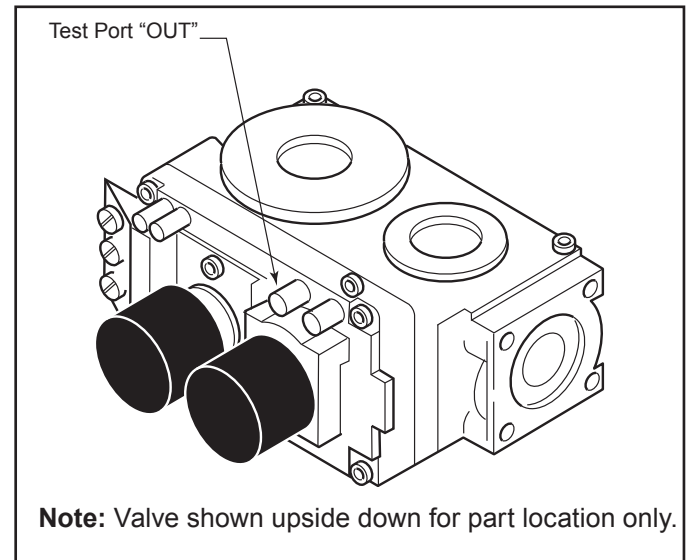

Figure 4.2 - Pressure Test Point Location Millivolt Control
Turn captured screw counter clockwise two or three turns and then place tubing to pressure gauge over test point (Use test point "OUT" closest to control knob). After taking pressure reading, be sure and turn captured screw clockwise firmly to re-seal. Do not over torque. Check for gas leaks. See Figure 4.2.
- Valve pressure taps are accessible on the left side of the appliance. See Figure 4.2.